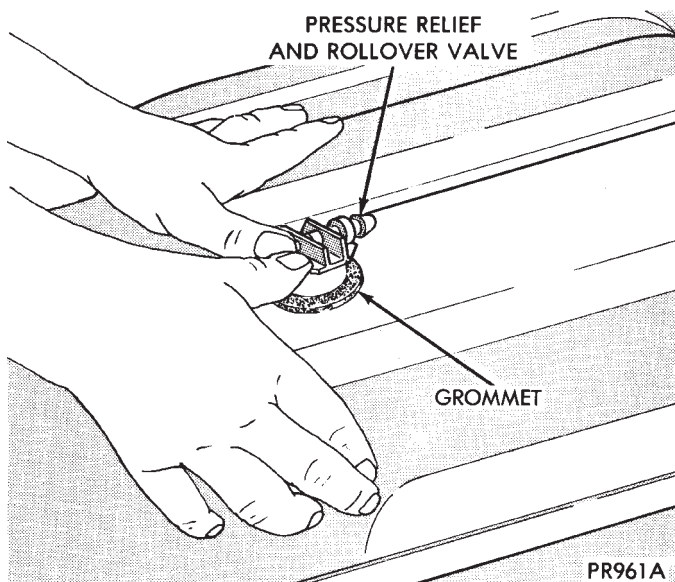

Fig. 7 Installing Pressure Relief/Rollover Valve
- (1) Install the rubber grommet in the fuel tank by working it around the curled lip of the tank (Fig. 7).